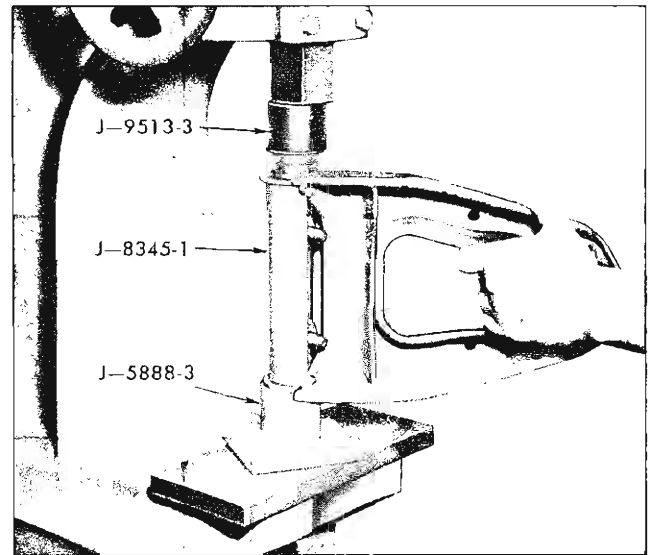

Fig. 47—Installing Remaining Pivot Shaft Bushing—Chevy II
4. Invert arm and press remaining bushing in place with J-9513-3 (fig. 47).